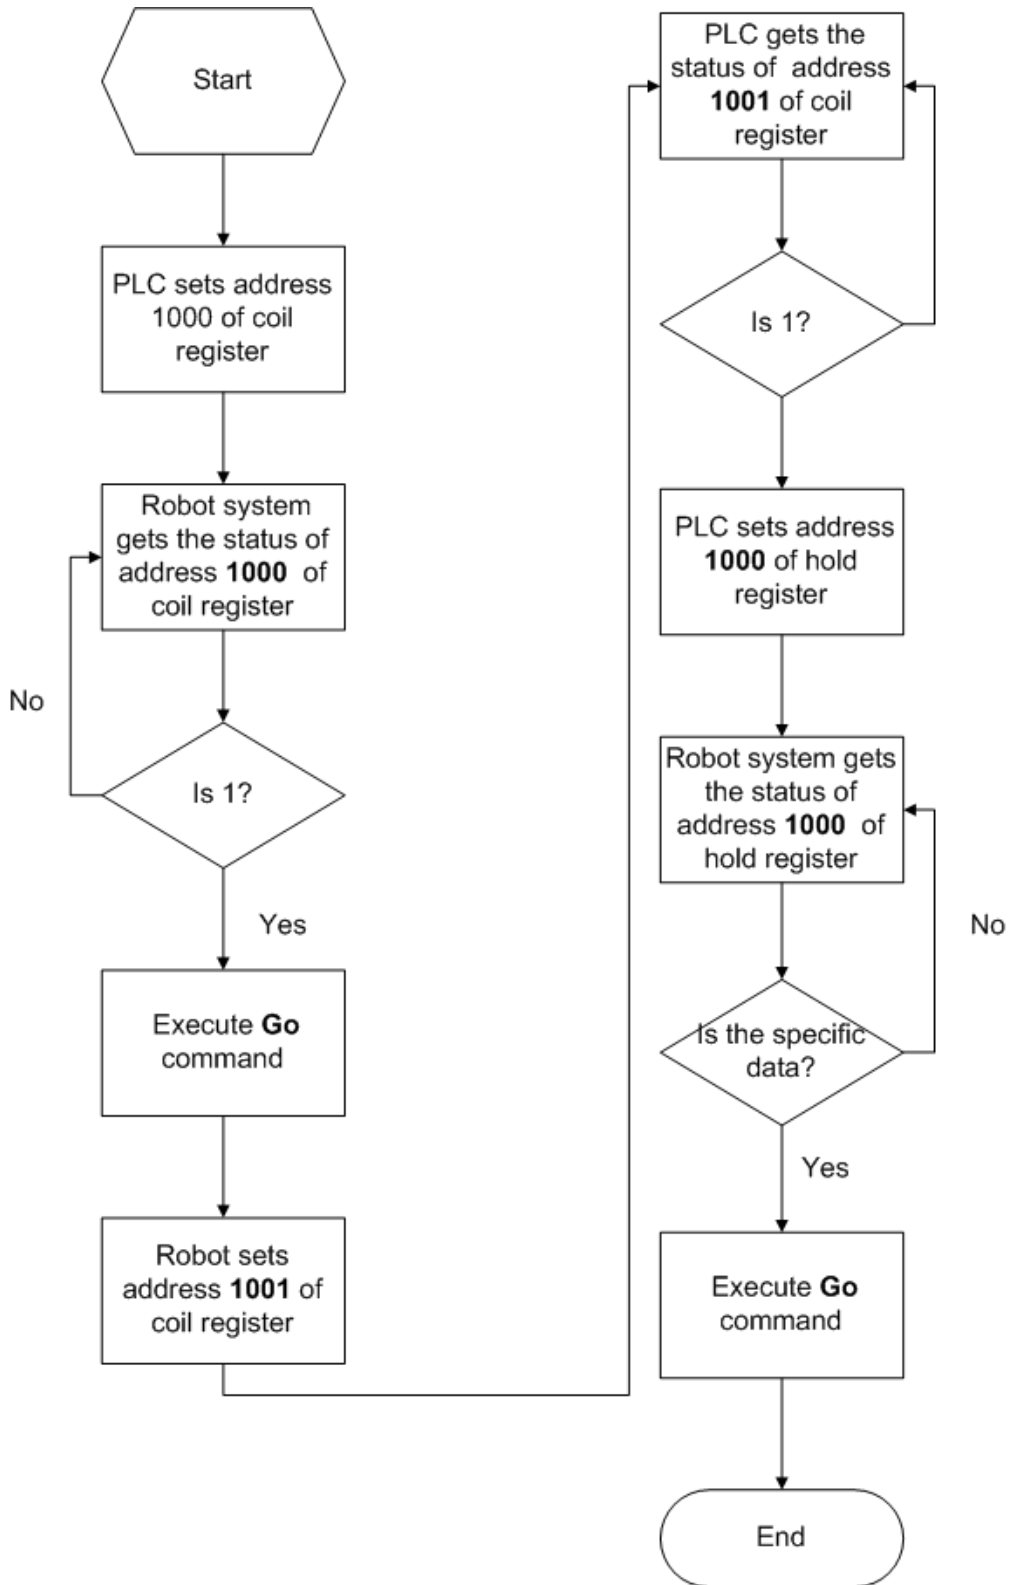

Figure 4.2 Program process
Figure 4.2 shows the program process and Program 4.1 shows the corresponding demo.
- The registers mentioned in Figure 4.2 are the robot system's registers. The corresponding registers of PLC are shown in *2.15.1 Modbus Register Description*.